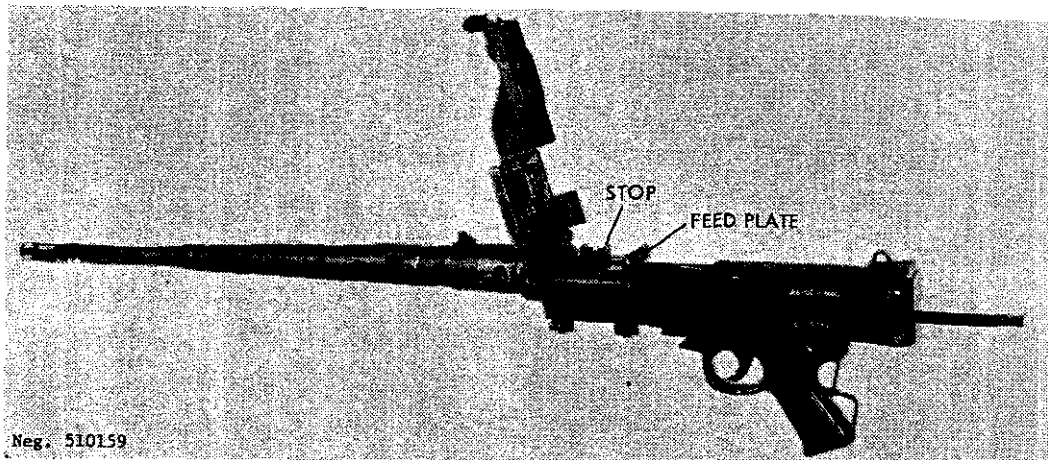

Figure 160. AAT-52 tank machinegun.
with the sliding stock folded or extended. A heavy-barrel model without stock or sights is also available for use in coaxial mounting of armored vehicles (fig 160).
c. The French Army and some of the former French colonies use this chamber for 7.5x54-mm cartridges. This version is officially known as the AA-52. By changing barrels, 7.62x51-mm NATO cartridges can be used; this version (AAT-52) is offered for commercial sale and is often found as a tank version (fig 160) in armored vehicles sold by France.
d. Place a loaded belt, open side of the links down, across the feed plate (fig 160). The first cartridge must rest against the stop (fig 160) and the belt must be located between the stop and the rear of the feed plate. Close the cover. CAUTION: The gun is loaded and ready to fire.